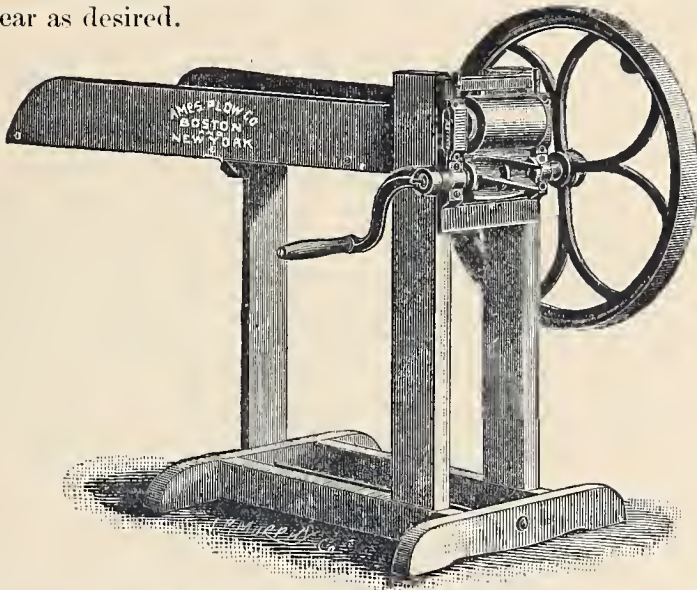

Fig. 440.—Hide Roller Hay-Cutter, with Spiral Knives.
*The Hide Roller Hay-Cutter, with Spiral Knives*, is represented by *Fig. 440*. The knives are set in the circumference of a cylinder, or arbor, and cut against a hide roller. This cutter has been in use for many years, and has given general satisfaction. There are various sizes.